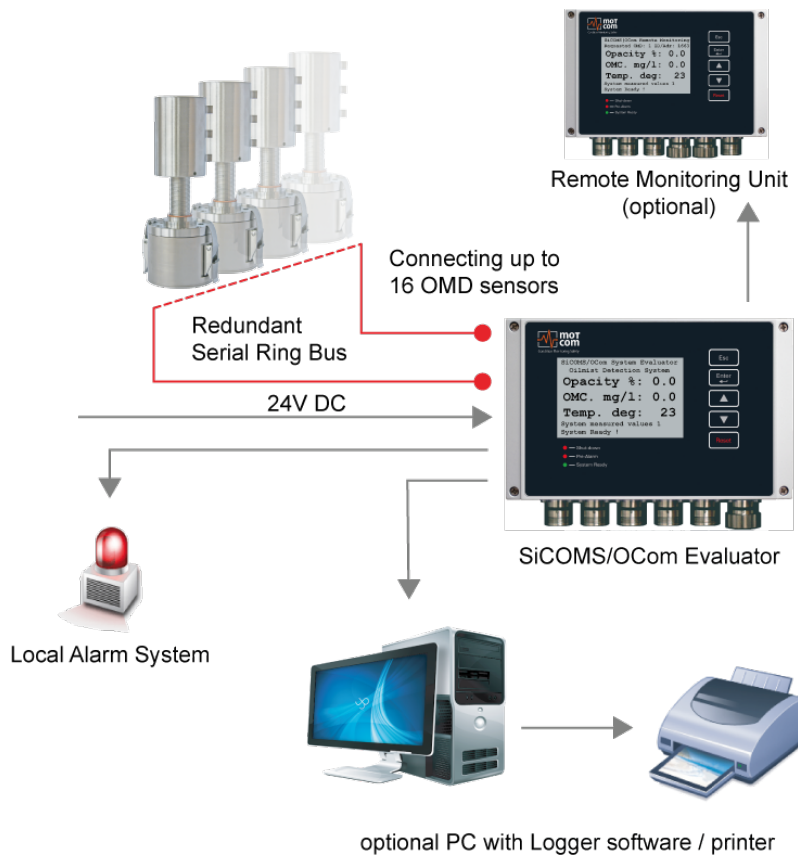

Fig. 3.1 System connection overview
- 1 Data Logger PC/Notebook complete installed with SiCOMS® OMD_Logger Software (able to connect with external Data Server over Modbus TCP/IP, see Fig. 3.1) and one CD including Software installation files and a soft copy of this User Manual,